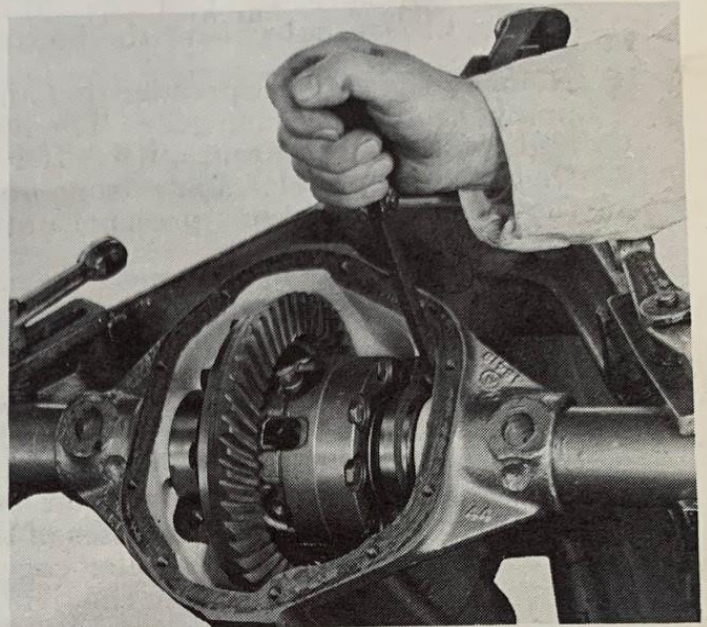

Fig. 6
15. Temporarily install shims, equal to the maximum indicator reading, between the rear axle housing and the bearing cup at the back side of the ring gear. (See Fig. 6.)